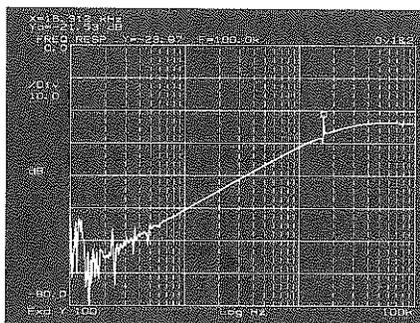

Figure 4-2
8. Start Press the yellow **START** key. The 100 Hz-to-100 kHz frequency response is displayed as the sweep progresses across the screen. The final trace will be similar to Figure 4-2 (again, the crystal resonator). Notice the line of annotation at the top of the trace: "Y" is the instantaneous level and "F" is the instantaneous sweep frequency.